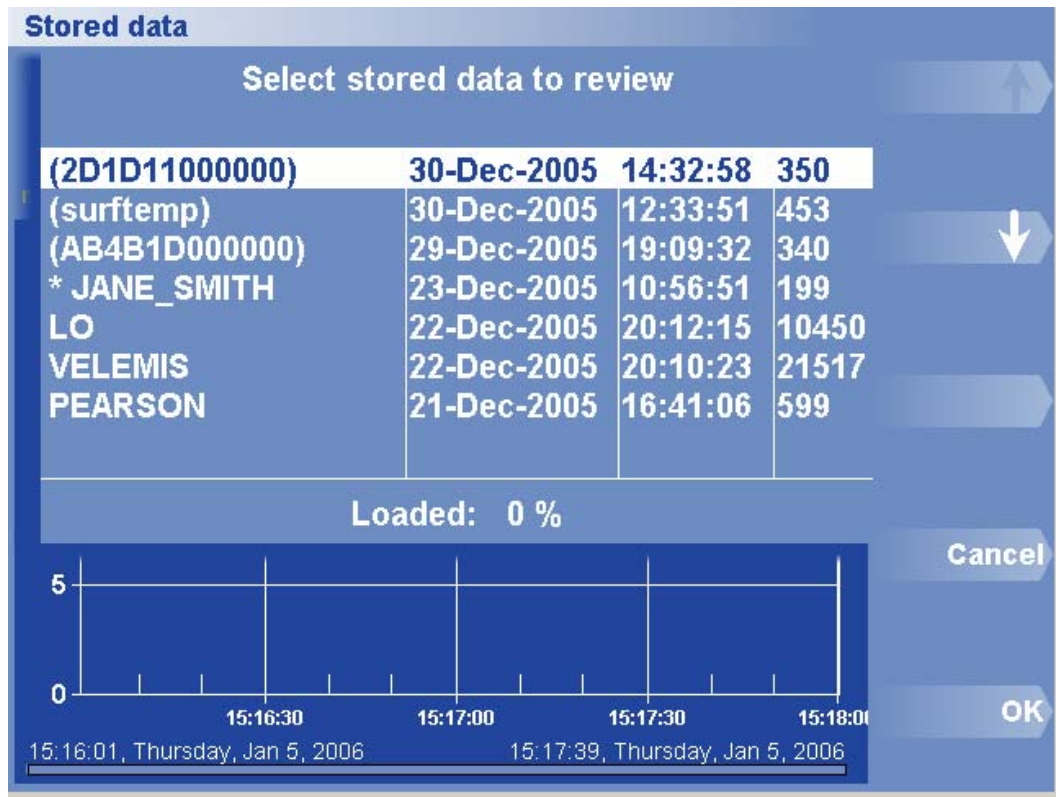

Figure 16. Review Data Dialog box and Menu
2. Press Review Data. A list of stored data (tagged with labels, dates, times, and file size) appears (Figure 16). The file with the asterisk (*) prefix is that of a connected probe.